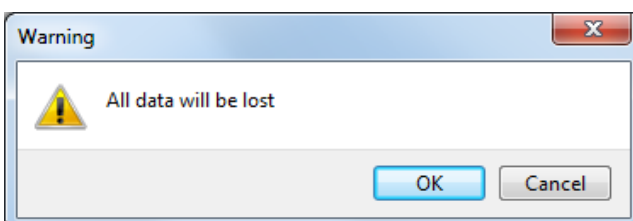

Fig. 32 Data loss warning.
- Select OK to start uploading of the update (Fig. 32).